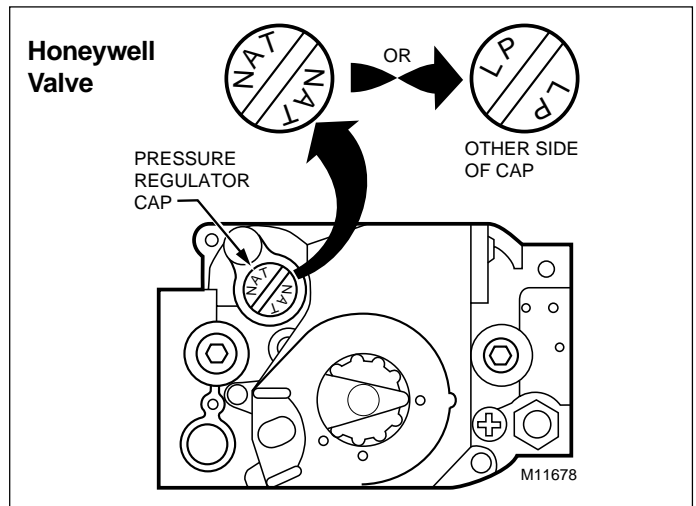

Figure 24. Convertible Pressure Regulator Cap
3. For the conversion to the alternate fuel, the gas valve regulator cap must be turned over, as shown in Figure 24. You will unscrew the cap and reinstall for your installation. After reinstalling the cap, you will be able to read "NAT" for the conversion to natural gas or "LP" for the conversion to LP gas.